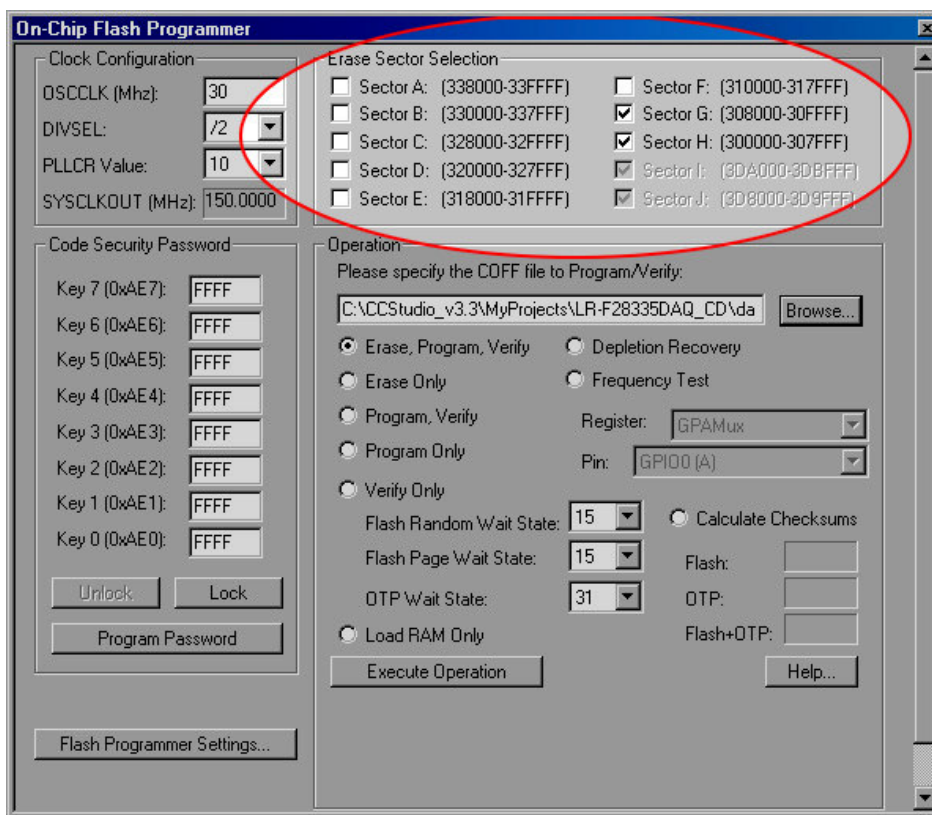

Figure 4
3. Select ONLY flash sections G and H as shown in figure 4